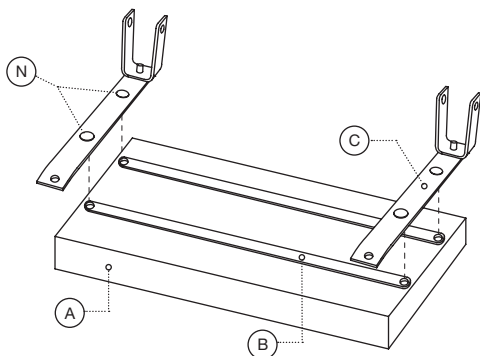

Figure 1 – Seat Cushion Assembly
1. With the Seat Cushion (A) facing down, align the holes of the Crossbars (B) with the seat. Then align the holes of the Seat Supports Bars (C) and attach with four M6 x 16 Phillips Head Screws. (N) (Fig. 1).